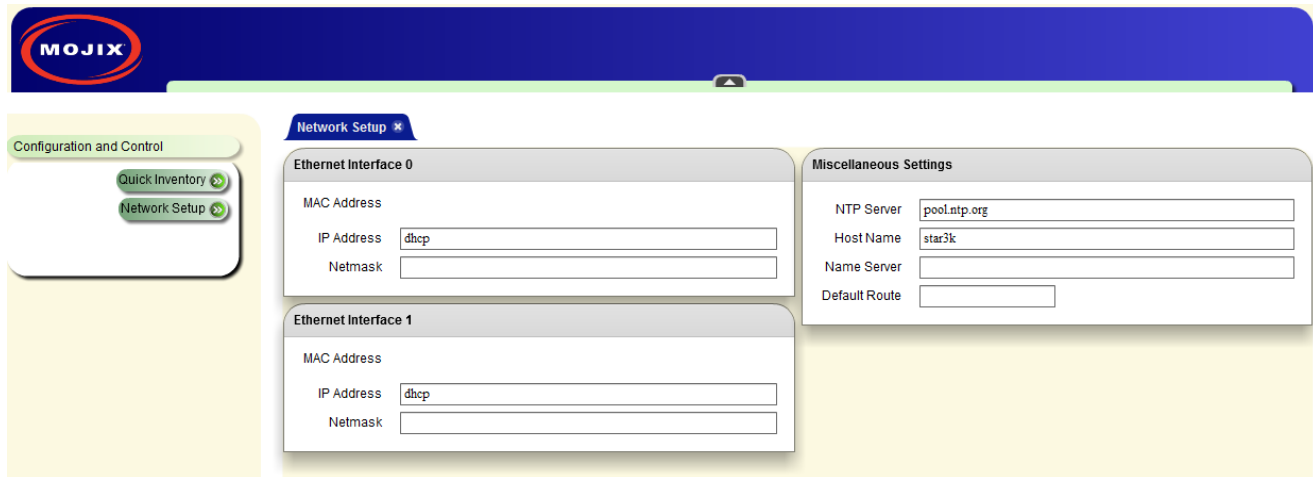

Figure 16: STAR Web UI Network Setup
2. Method 1: Connect to the STAR by entering the default IP address listed above for Ethernet 1. Figure 16 shows the graphical interface presented to the user for network setup. Enter the desired network addresses and then click on the Commit Changes button.